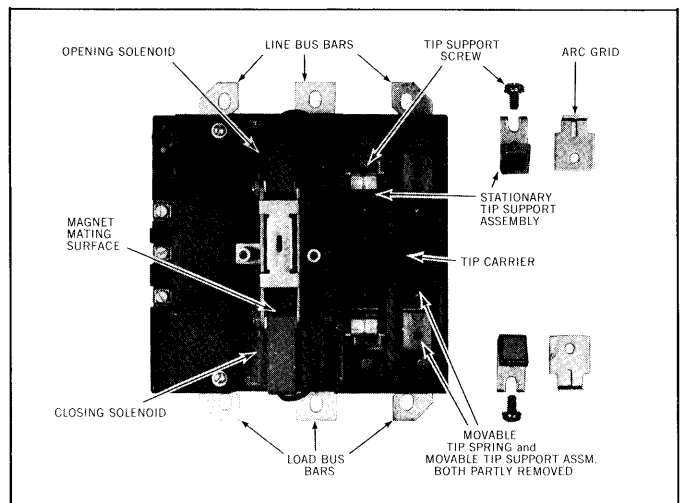

Figure 2. Removal of contacts—CR160MB forms
13. Install new switch mechanism assembly while threading coil lead wires through the base housing as shown in Figure 2. Confirm that return springs are seated into housing recesses.